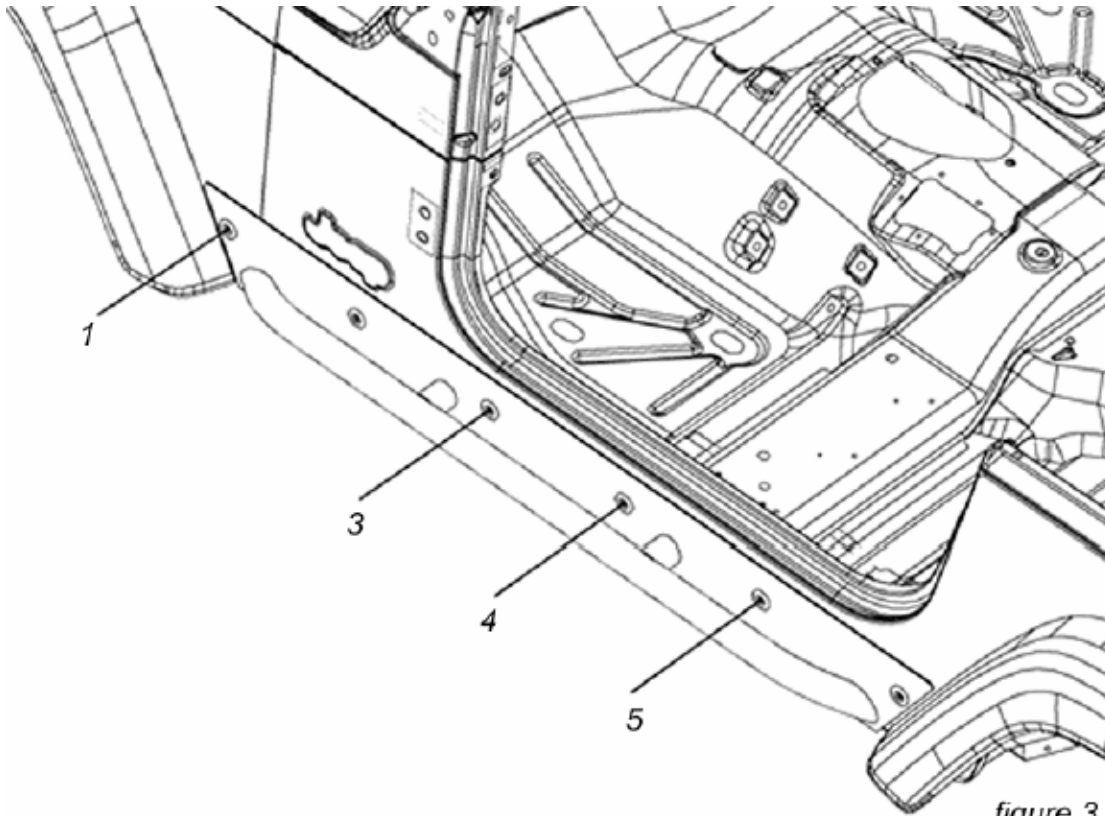

figure 3
7. Re-install the guard. Put Neoprene washers on three of the M6x25 stainless button head screws, position them through holes #3, 4 & 5 (Fig. 3). Unsnap and pull carpet away, then place the appropriate internal bracket (Fig. 4) and install three M6 flat washers, and the three M6 Nyloc nuts. Tighten until the neoprene is compressed and the bolt is tight.